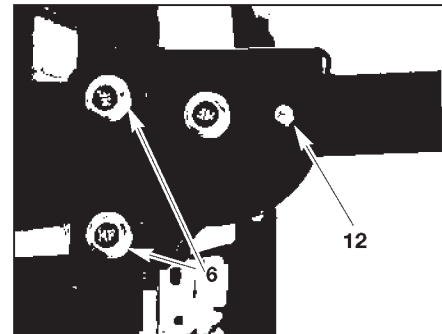

Figure 13
NOTE: Orientation of handle assemblies to frame will depend on how the operator wishes to operate snap button (12). If snap button is assembled to outside of the generator frame it will be operated by the fingers. If snap button is assembled to inside of the generator frame it will be operated by the thumbs. Figure 13 shows the snap button assembled to outside of generator frame.